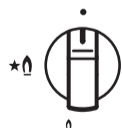

Fig. 11
1. To light the hob, push down the appropriate knob and turn anti-clockwise to the large flame symbol (Fig. 11).